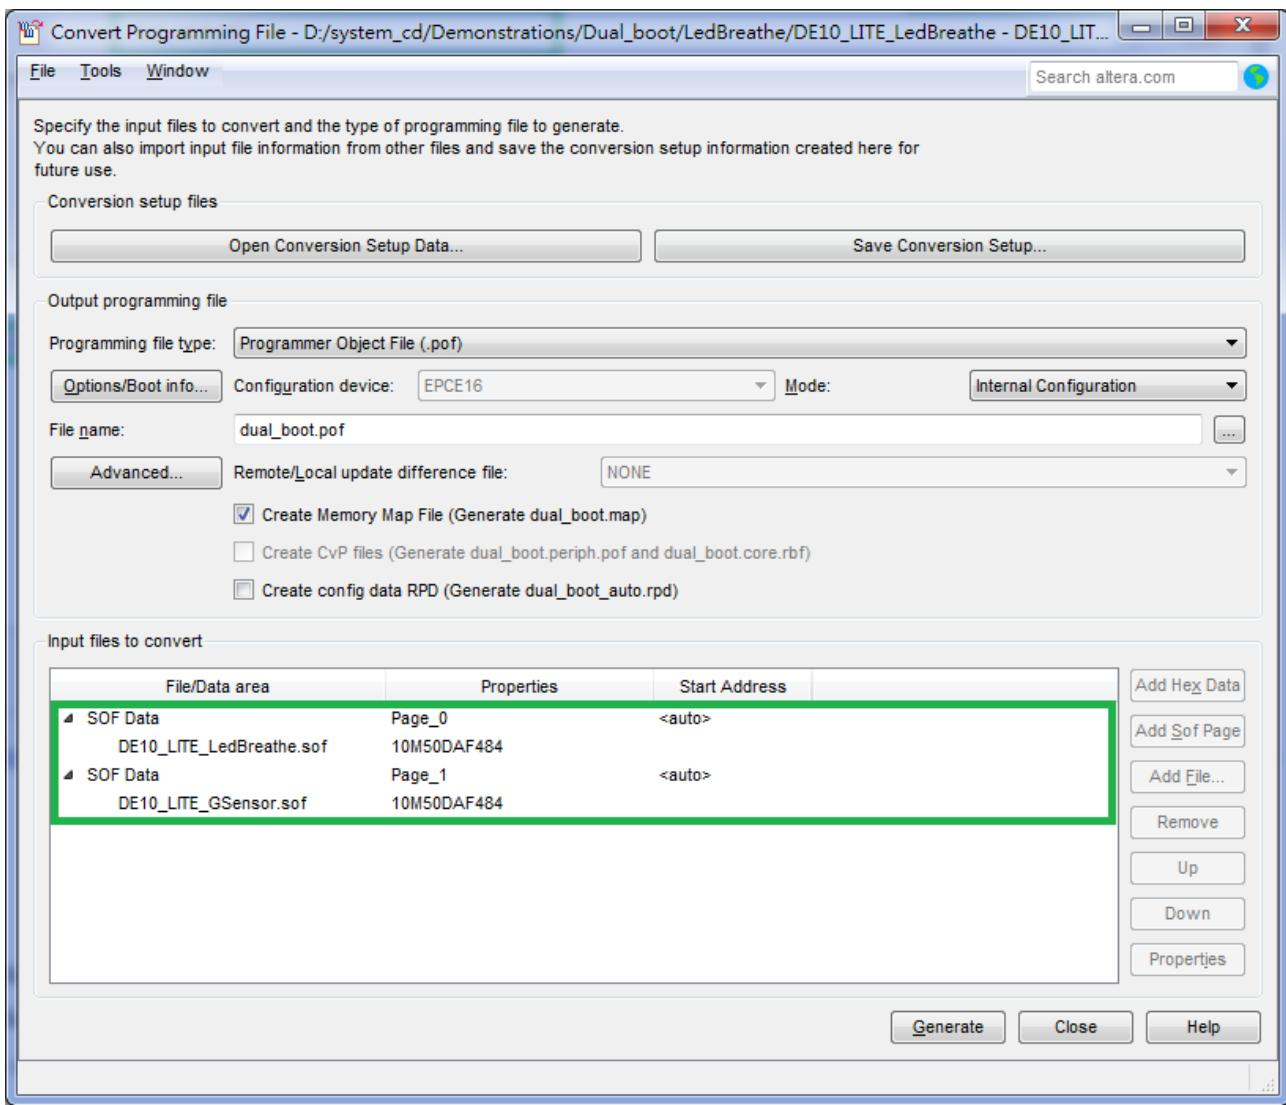

Figure 6-15 Add sof page and sof file
7. Click **Add Sof Page** to add Page\_1 and click **Add File**, Select the DE10\_LITE\_GSensor.sof of GSensor demo to be the .sof data of Page\_1 as shown in Figure 6-15.